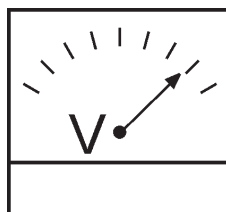

Figure 45. Frequency Meter
7. The generator's AC-voltmeter (Figure 45) will display the generator's output in **VOLTS**..